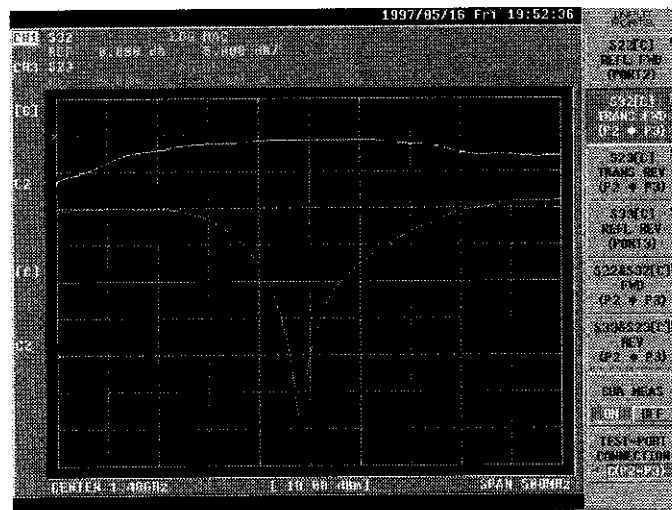

Figure 4-13 Transmission Characteristics between TEST PORT2 and TEST PORT3
- ⑧ TEST PORT CONNECTION C(P2-P3) is displayed as shown in Figure 4-13. CH1 shows S32 measurement data and CH3 (SUB MEAS) shows S23 measurement data.